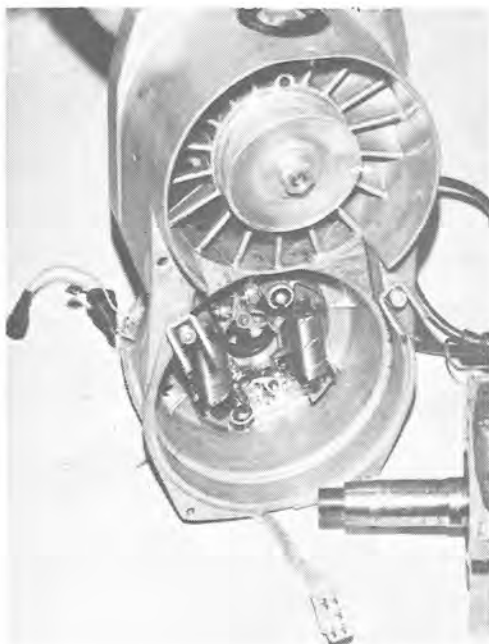
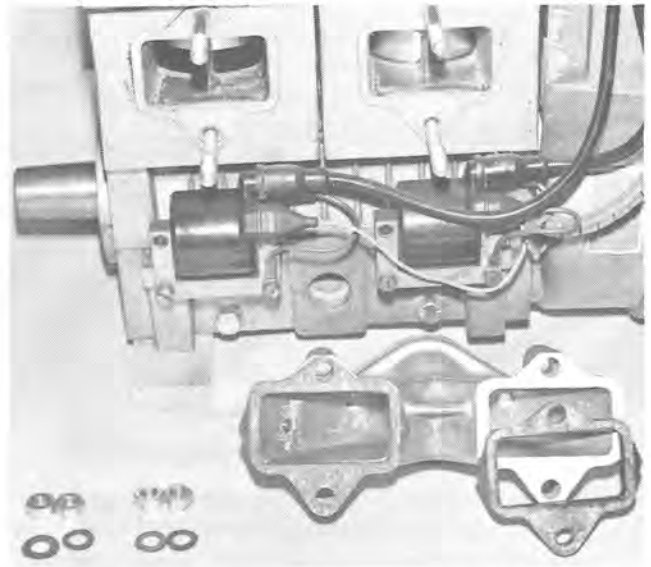

FIG. 1-39
FIG. 1-41
Install new o-ring and apply sealant material around o-ring surface (see Fig. 1-41). Install the armature plate wires through hole in fan housing and install armature plate with hold down screws, washers, and lockwashers. See Fig. 1-39.
Install spacers, gaskets and intake manifold (Fig. 1-41). Torque nuts evenly to sixteen (16) to (18) foot pounds.